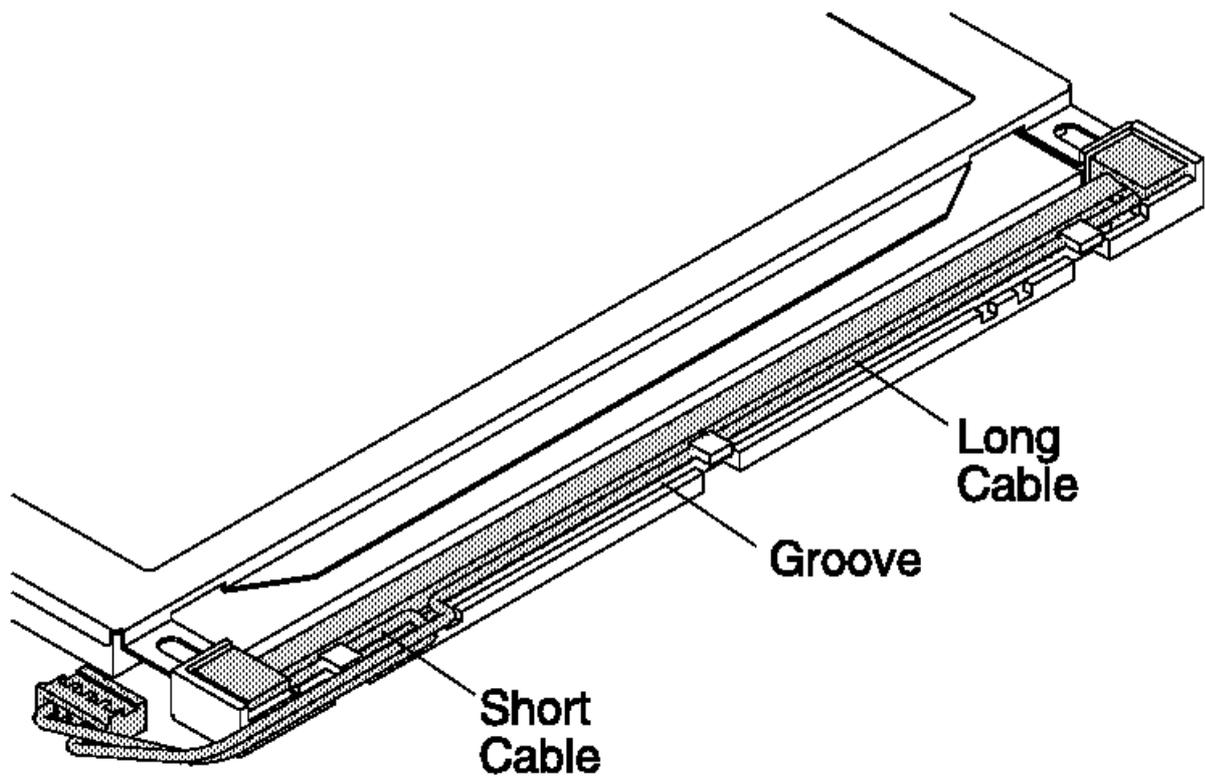

Figure 3-7. Reassembling the CCFL Assembly
- a. When replacing the CCFL assembly, take note of the length of the cables. There is a long cable and a short one. Place the short cable at the bottom edge. See Figure 3-7.